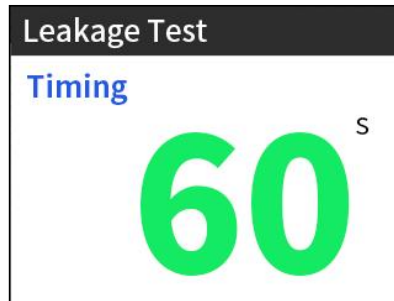

Figure 5.6
- 2) Select [Leakage test] on the main interface and press [Start] button. The system will start to work. Judge the leakproofness of the injector by observing whether the injector is dribbling or not. Typically, the dribbling should be no more than one drop in one minute (or technically). The time set in the system is 60 seconds by default, and the pressure value set for leakage test function should be 10% higher than that set by the manufacturer. At this time, the pressure can be adjusted via [Pressurization⊕] and [Depressurization⊖] buttons, as shown in Figure 5.6.